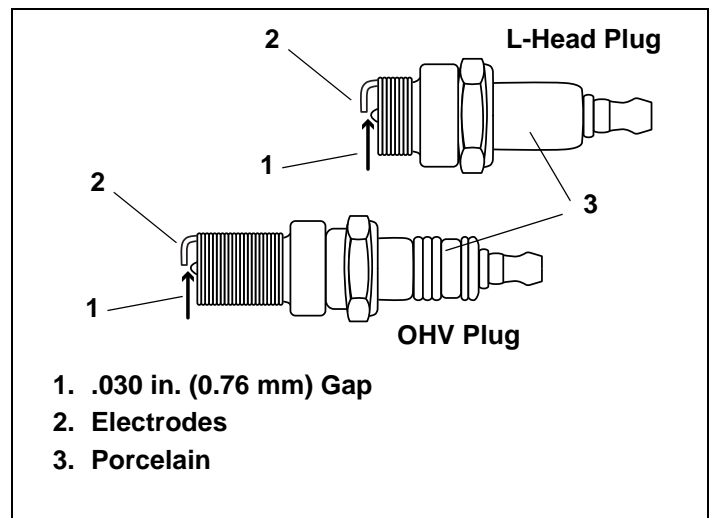

Figure 40. Resistor Spark Plug
4. Check electrode gap with wire feeler gauge and set gap to  $-.030$  in.(0.76 mm) if necessary. See Figure 40.